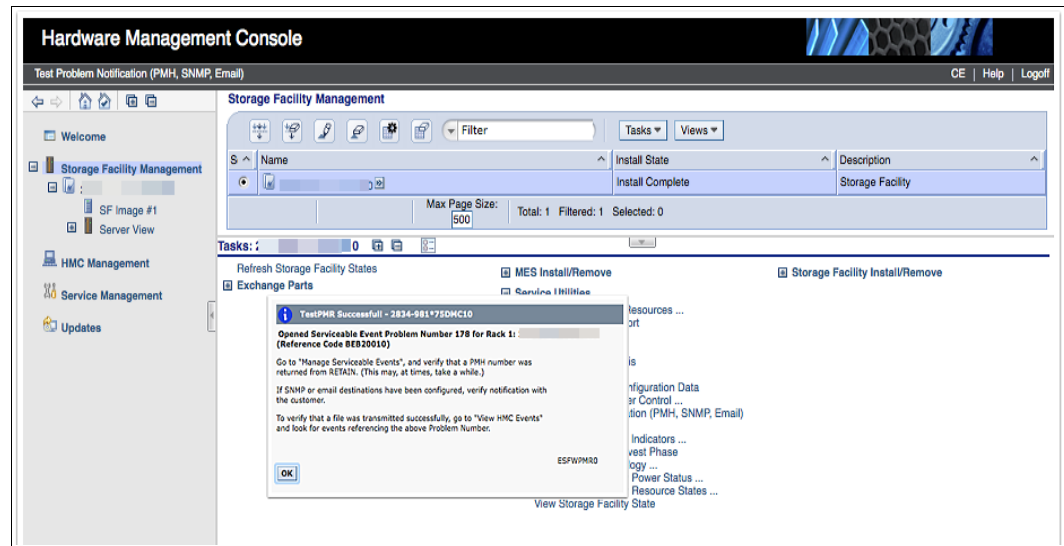

Figure 12-6 HMC SNMP trap test
- The test generates the Service Reference Code BEB20010, and the SNMP server receives the SNMP trap notification, as shown in Figure 12-6.